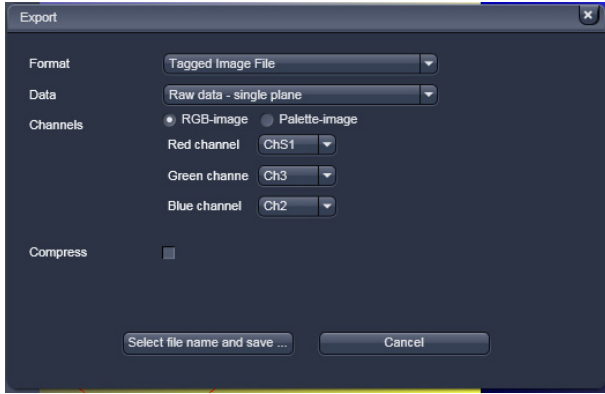

Fig. 7-14 Export window
- This opens the **Export** window (Fig. 7-14).